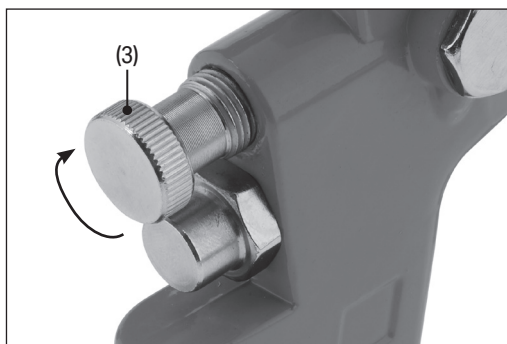

Fig. 3
2. If assembling the paint spray gun, rotate the fluid control dial (3) clockwise as far as possible to close the fluid valve (Fig. 3).